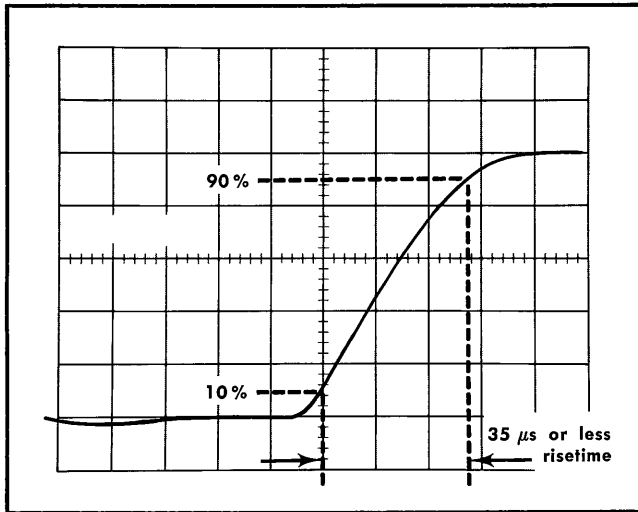

Fig. 5-19. Risetime waveform for step 22. Sweep rate - $10 \mu\text{s}/\text{div}$; vertical sensitivity - $1 \text{ PSI}/\text{DIV}$.
- f. Set the 2B67 TIME/DIV control to $10 \mu\text{s}$ and its (TRIGGERING) SLOPE control to —. Adjust its POSITION and (TRIGGERING) LEVEL controls as necessary to obtain a display as shown in Fig. 5-19.